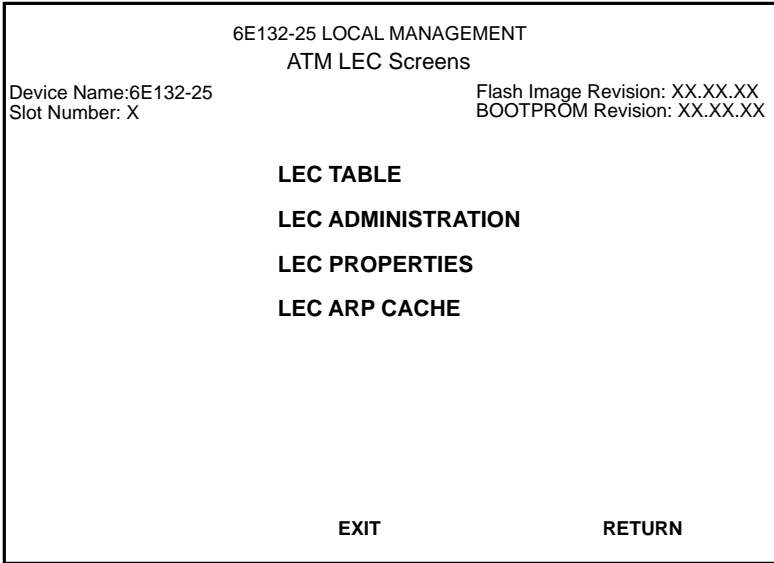

Figure 3-7 The ATM LEC Screen
2. Press ENTER. The ATM LEC screen, **Figure 3-7**, displays.